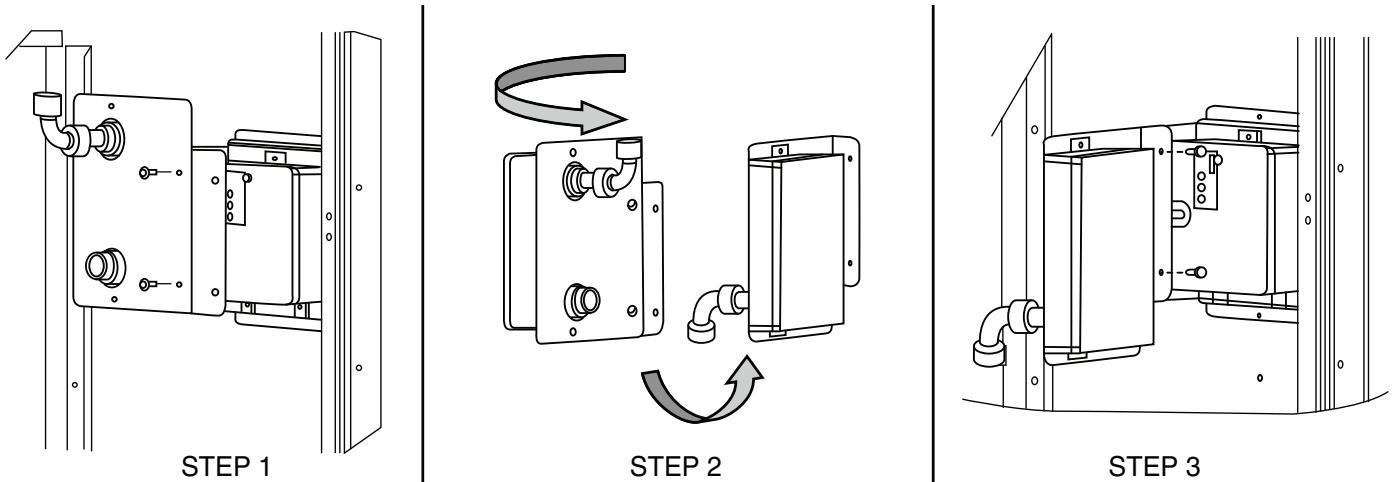

Fig. 54 — Completing Installation of Return Air Smoke Sensor
1. Unscrew the two screws holding the return air smoke detector assembly. See Fig. 54, Step 1. Save the screws.
2. Turn the assembly 90 degrees and then rotate end to end. Make sure that the elbow fitting is pointing down. See Fig. 54, Step 2.
3. Screw the sensor and detector plate into its operating position using screws from Step 1. See Fig. 54, Step 3.